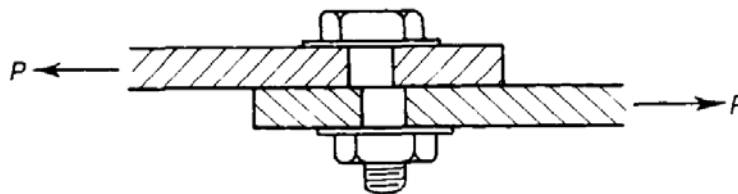

Figure 3.2. Failure by shearing of the bolts.
(1) The bolts may fail by shearing, as shown in Figure 3.2; if τ_1 is the maximum shearing stress the bolts will withstand, the total shearing force required to shear a bolt is